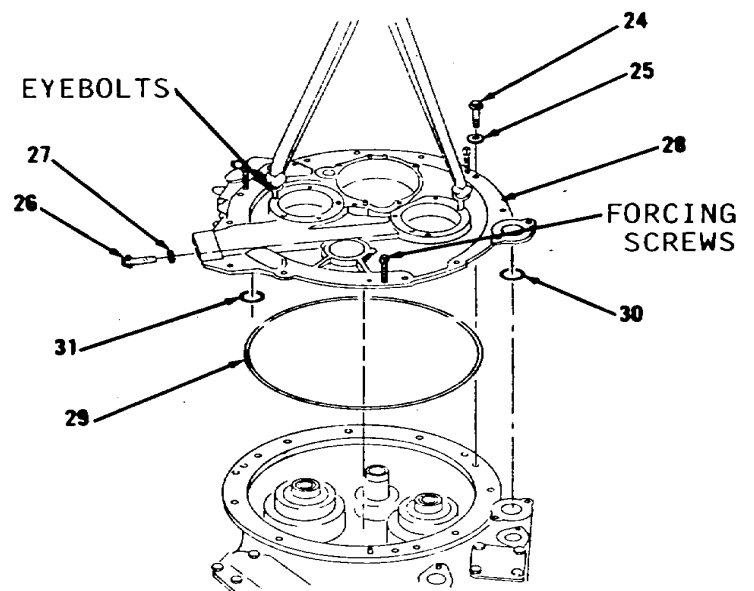

Figure 14-6.
19. Evenly and gradually tighten two 3/8-16NC forcing screws and remove bearing cage (21) and shim pack (22).
21. Remove bearing cup (23).
22. Remove 12 bolts (24) and washers (25, Figure 14-6).
23. Remove two plugs (26) and preformed packings (27) from cover (28). Discard two preformed packings (27).
24. Install three 1/2-13NC forcing screws in cover (28).
25. Install two 3/8-16NC forged eyebolts in cover (28).